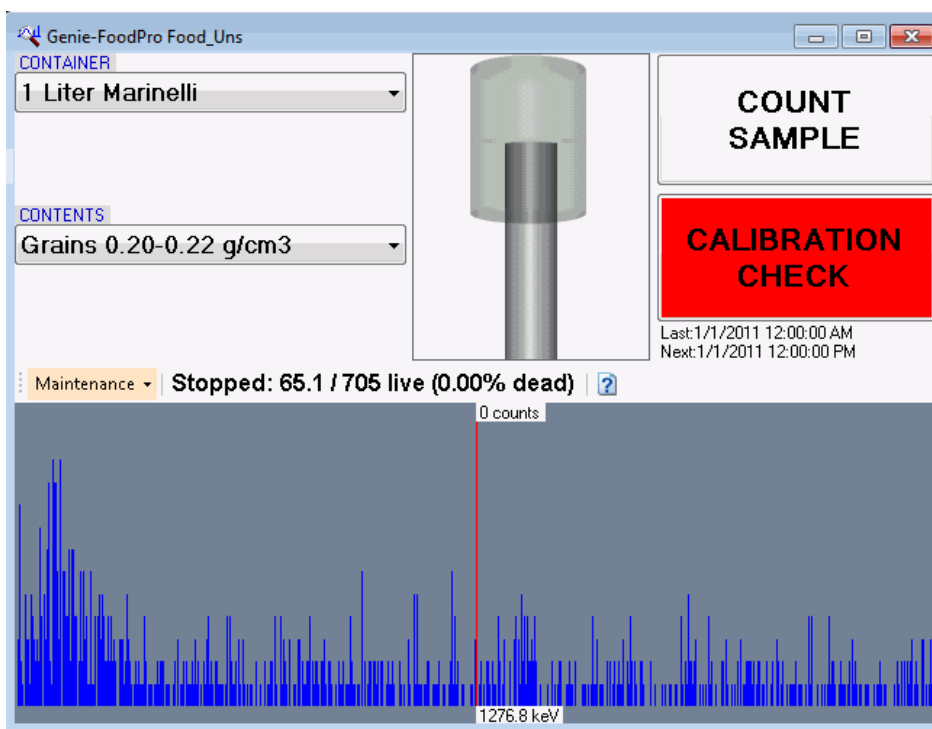

Figure 1: Main User Interface
The main window (Figure 1) now appears.
- Spectral Plot with elapsed and current time presented with dead time on a bar. The x-axis shows the energy and counts at the cursor (see Figure 1).